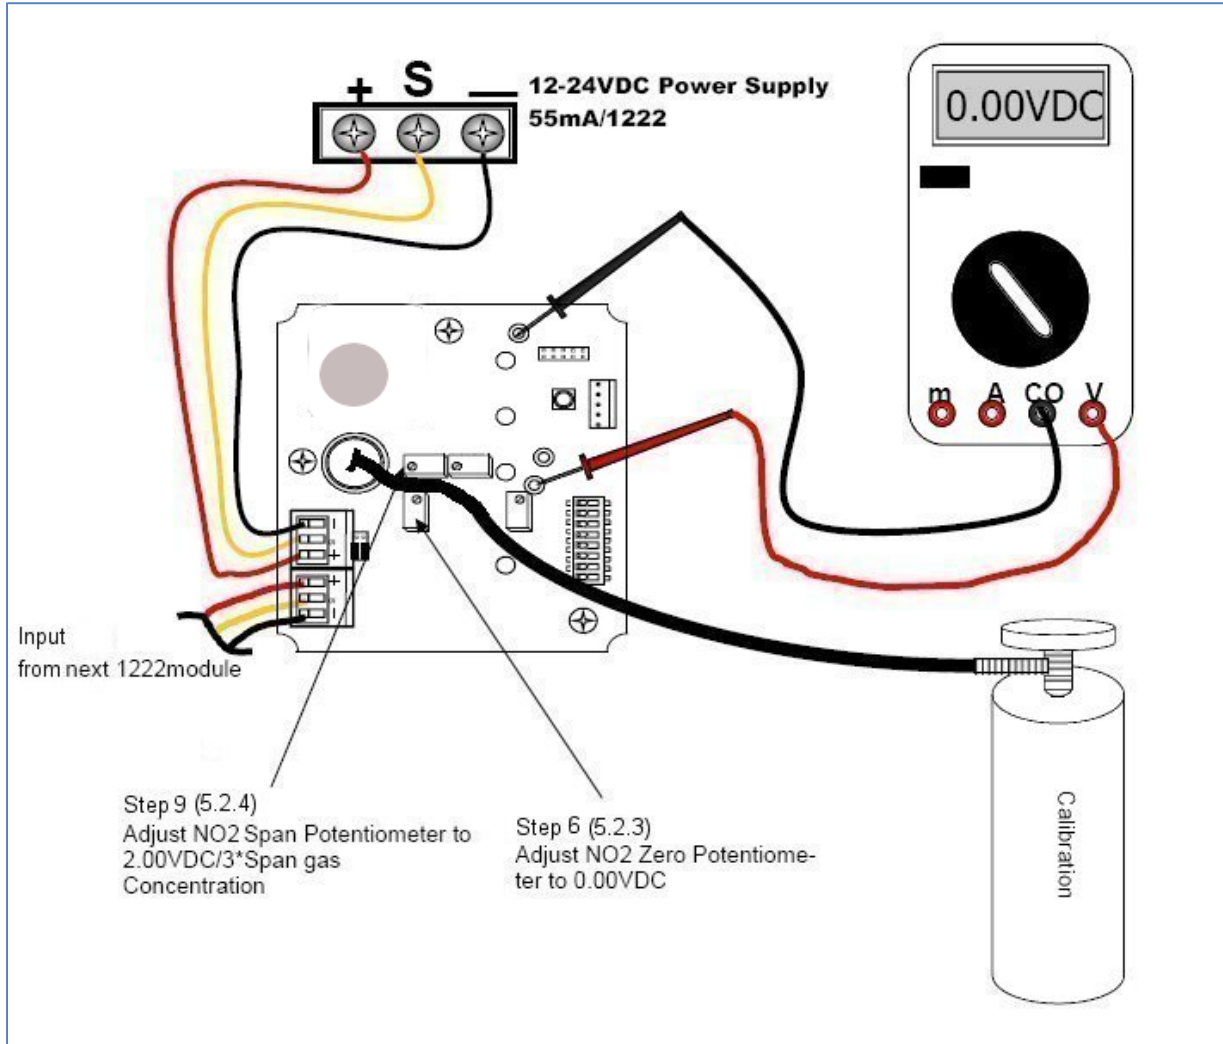

Figure 5-2 Calibration Procedure for 1222 NO₂
Step 4 Connect Multimeter to COM(-) and TP1 as shown in Figure 5-2